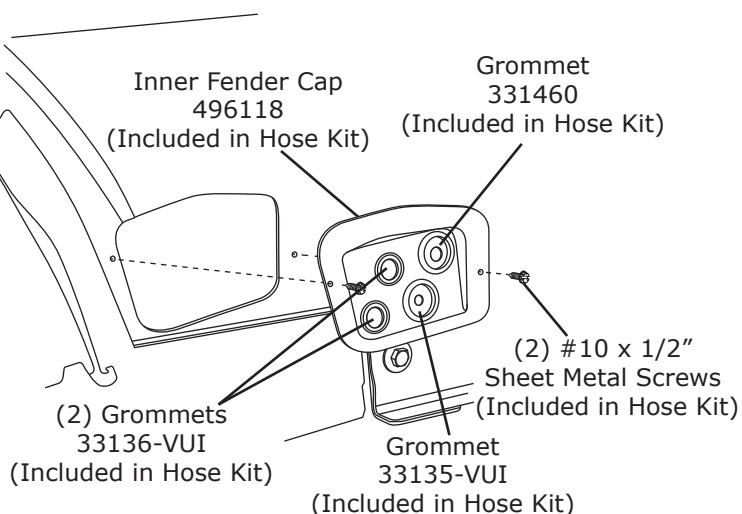

Figure 10a
2. Install (4) grommets in inner fender cap (See Figure 10a, below).
3. Install inner fender cap using (2) #10 x 1/2" sheet metal screws as shown in Figure 10a, below.